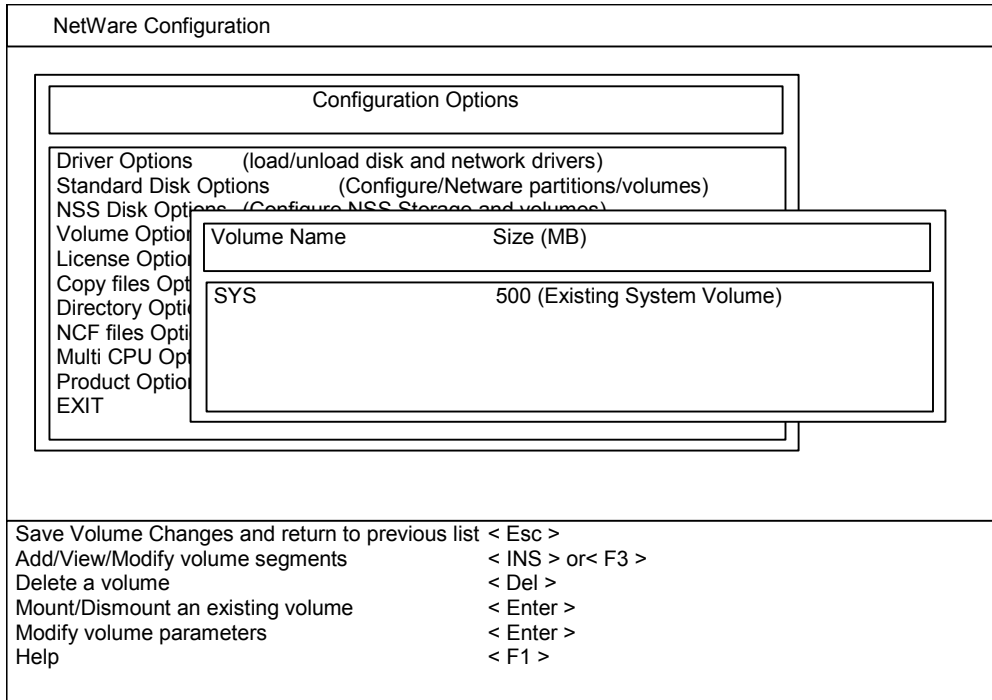

Figure 3.8 Displaying the Existing Volumes and Volume Options
2. The existing volumes are listed by volume name, and the volume options are displayed at the bottom of the screen (see Figure 3.8). Execute the **Add/View/Modify volume segments** command by pressing the **Ins** or **F3** key.